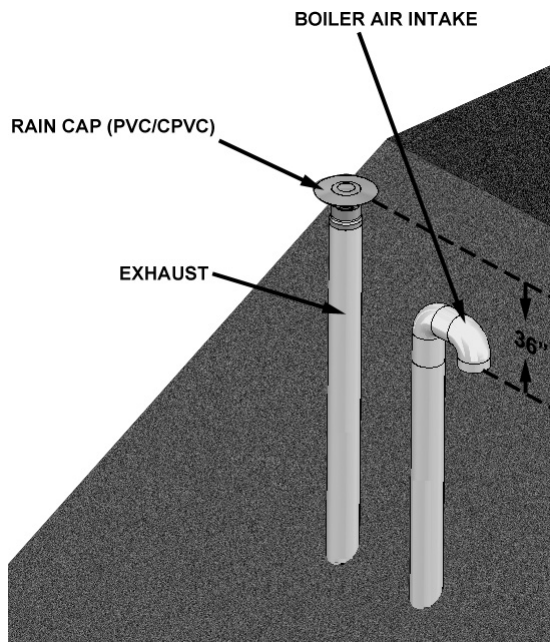

FIGURE 34. PVC/CPVC AIR/VENT TERMINATION - VERTICAL
4. The vent piping must terminate in an up-turned rain cap as shown in Figure 34. When the vent termination uses a rain cap as illustrated in Figure 34, maintain at least 36" (914 mm) above the air inlet.
3. Space the air and vent holes to provide the minimum spacing shown in Figure 34 and Figure 35.